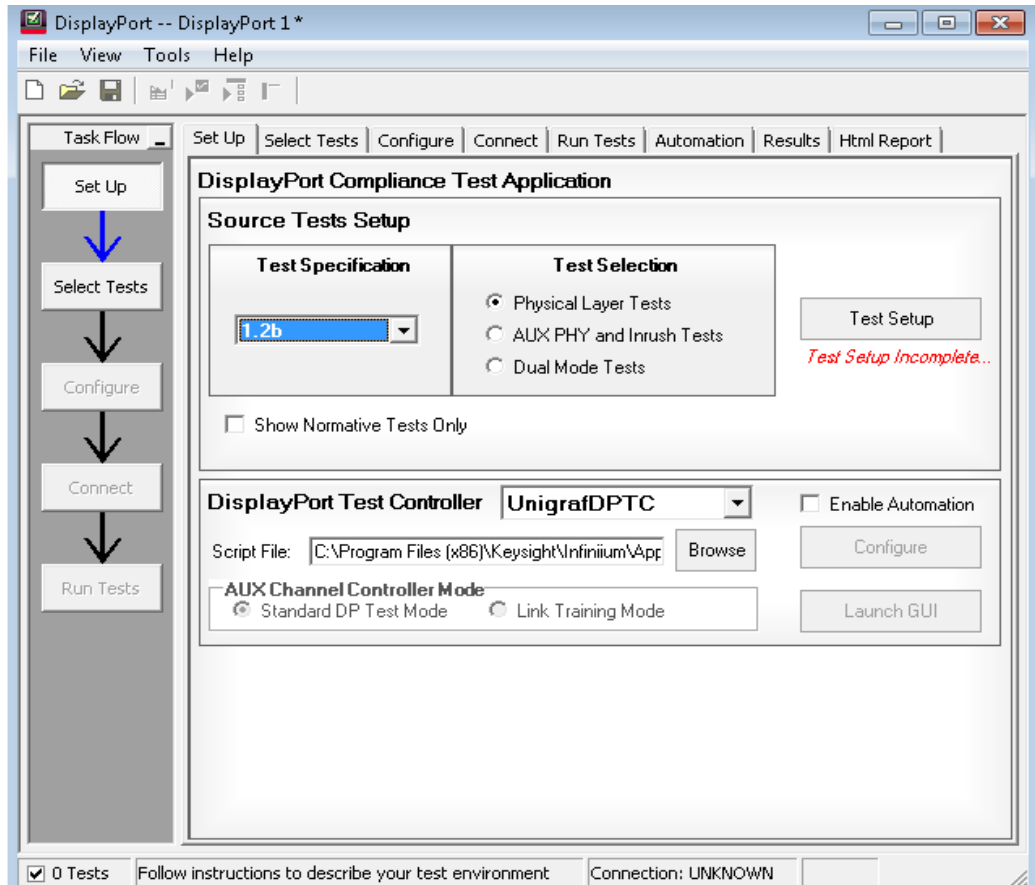

Figure 29 Set Up tab on the DisplayPort Compliance Test App
- 3 On the DisplayPort Compliance Test Application, click the **Set Up** tab (see Figure 29).